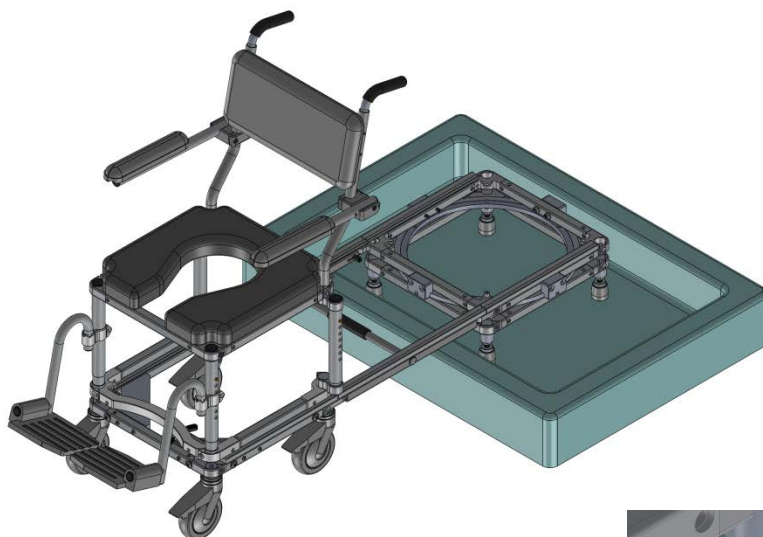
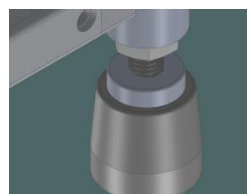

FIGURE 11
FIGURE 12
I. Now that the unit is assembled, remove the connector bridge and place the shower-stall section in the shower stall to be used, see Figure 11. Connect the two frames with the connector bridge and “lock” the bridge in place with its (4) slide bars. Then you need to set the tracks of both frames at approximately the same height and be level. This is accomplished by screwing the (4) adjustable feet on the shower-stall section, see Figure 12. Once the shower-stall section height is correct, “lock” the leg heights by screwing the jam nuts up against the insert plugs. A 7/8” open ended wrench or a small crescent wrench can be used to do this.